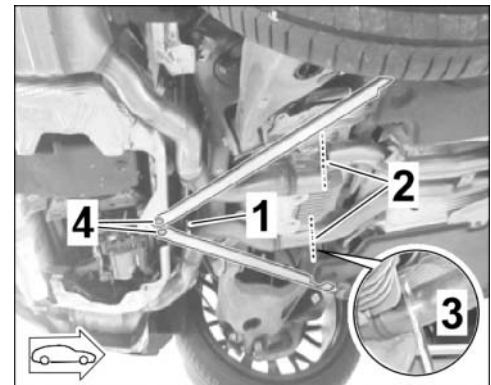

Figure 25
- 3.3.2 Remove hexagon-head bolt (M8 x 16, 2 x) on strut between the rear silencers (⇒ *Figure 25 -1-*) and remove strut.
- 3.3.4 Remove hexagon-head bolts (M8 x 20, 2 x) on rear-end cross strut (⇒ *Figure 25 -4-*). ⇒ *Workshop Manual '421319 Removing and installing rear-axle chassis subframe struts'*